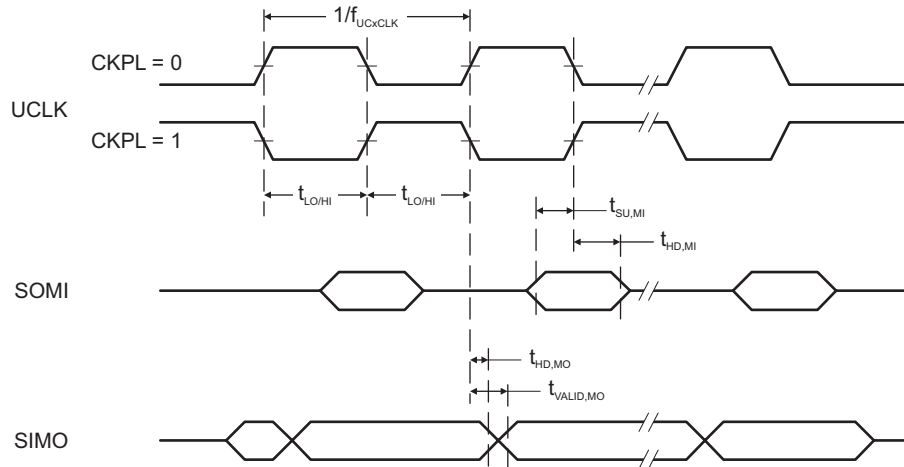
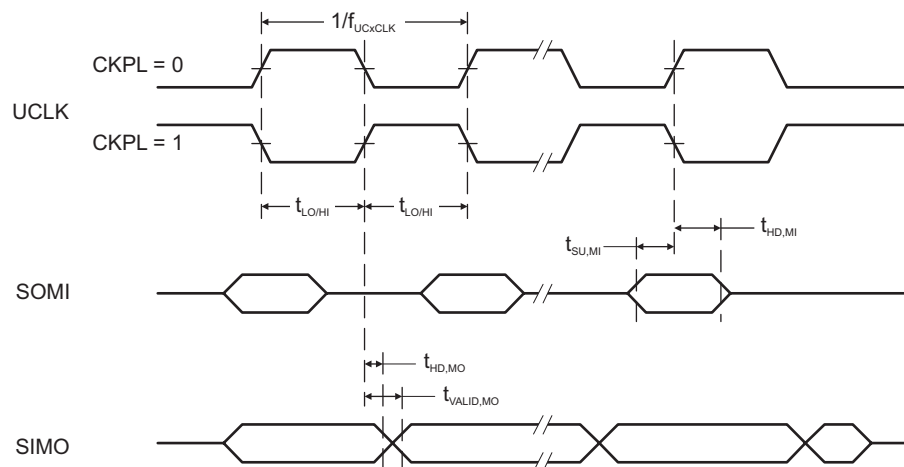

Figure 5-13. SPI Master Mode, CKPH = 0
Figure 5-14. SPI Master Mode, CKPH = 1
(see Note ⁽¹⁾, Figure 5-13 and Figure 5-14)
(2) Specifies the time to drive the next valid data to the SIMO output after the output changing UCLK clock edge. See the timing diagrams in Figure 5-13 and Figure 5-14.
(3) Specifies how long data on the SIMO output is valid after the output changing UCLK clock edge. Negative values indicate that the data on the SIMO output can become invalid before the output changing clock edge observed on UCLK. See the timing diagrams in Figure 5-13 and Figure 5-14.
(2) Specifies the time to drive the next valid data to the SOMI output after the output changing UCLK clock edge. See the timing diagrams in Figure 5-13 and Figure 5-14.
(3) Specifies how long data on the SOMI output is valid after the output changing UCLK clock edge. See the timing diagrams in Figure 5-13 and Figure 5-14.